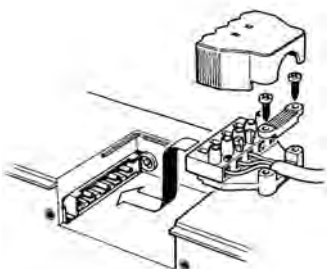

Fig. 8
2. Assemble the Fan Connector by snapping the Cover over the Connector (Fig. 8).